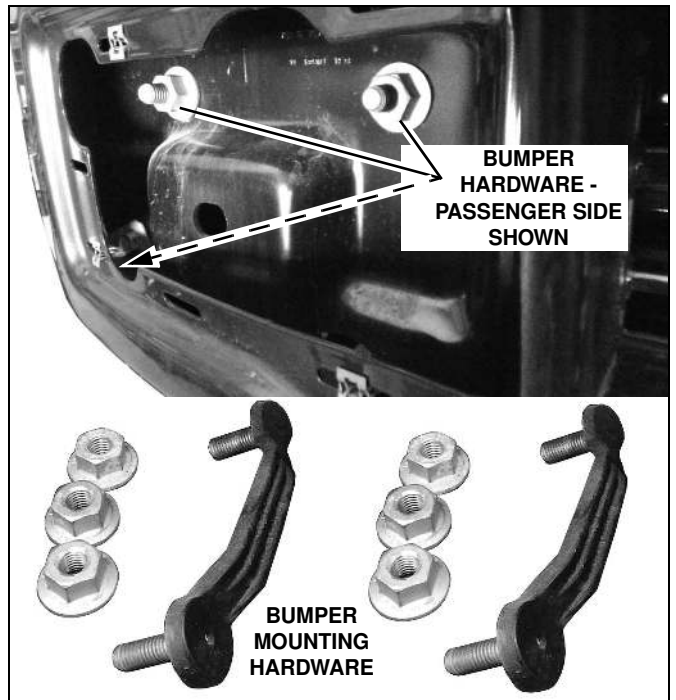

Figure 17
6. Disconnect the fog lamps, if equipped and any harnesses attached to the bumper. Remove the 3 nuts on each side, holding the bumper to the truck frame. Remove the bumper. (See Figure 17)